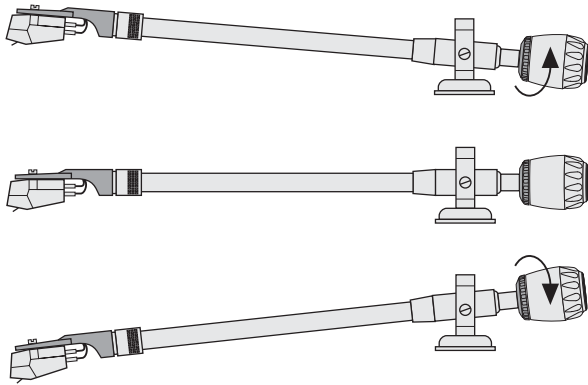

Fig. 3: Tone arm balance
- 5 Lead the tone arm with the left hand to the side so that the stylus does not hit against the turntable platter. With the right hand turn the counterweight so that the tone arm remains exactly in a horizontal position and does not move upwards or downwards (Fig. 3).